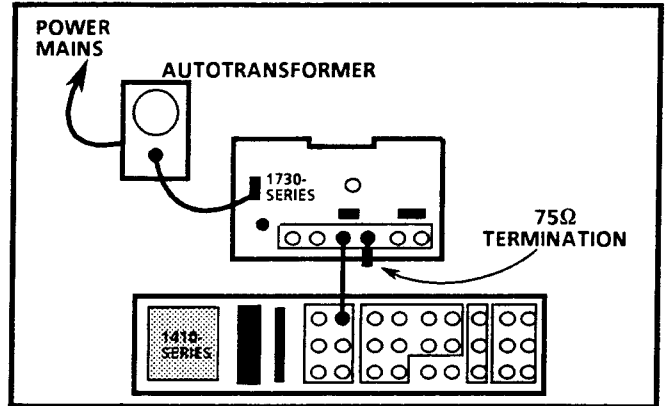

Fig. 5-3. Initial equipment hook-up for the Performance Check Procedure.
- c. Connect a composite color bar signal with 100% peak white bar and 75% amplitude color bars to the CH-B INPUT and terminate the opposite side of the loop-through with a 75Ω termination. See Fig. 5-3.